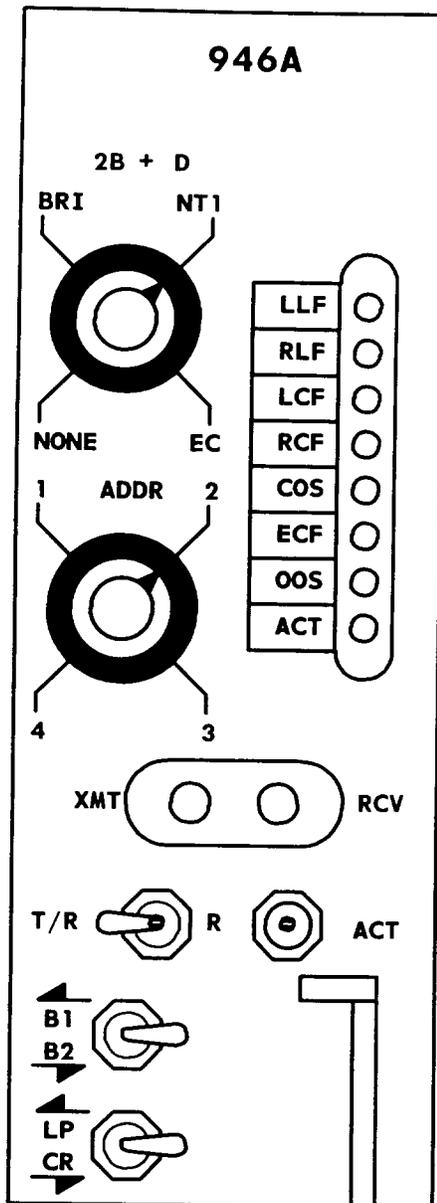
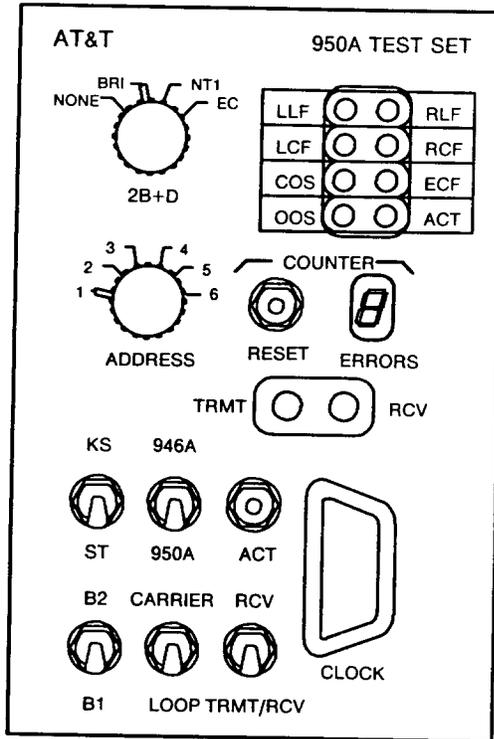

Figure 4 — 946A test set faceplate
Figure 5—950A test set faceplate
Several test sets are used for installation and maintenance testing of ISDN circuits. The **946A** test set (Figure 4) is used to test from an **AHG13, S2** BRITE channel unit at the (D4) channel bank or *SLC 96* carrier terminal. The **950A** test set (Figure 5) is used to test from an **AUA90** T-BRITE (Series 5) channel unit. Both test sets perform similar test functions. The **KS-20908** receiver and **KS-20909** transmitter data test sets must be used with the **946A** test set for some tests. Although the **KS-20908** receiver and **KS-20909** transmitter data test sets may be used with either test set to verify data transmission, they are not required with the **950A** test set. The **950A** test set can generate data locally to check for gross failures. The data test sets can be used with the **950A** test set to check slow error rates (displayed) or when the customer complains of errors which are not easily diagnosed using only the **950A** test set.
3. Set switches on the **946A** test set (Figure 4), as follows: